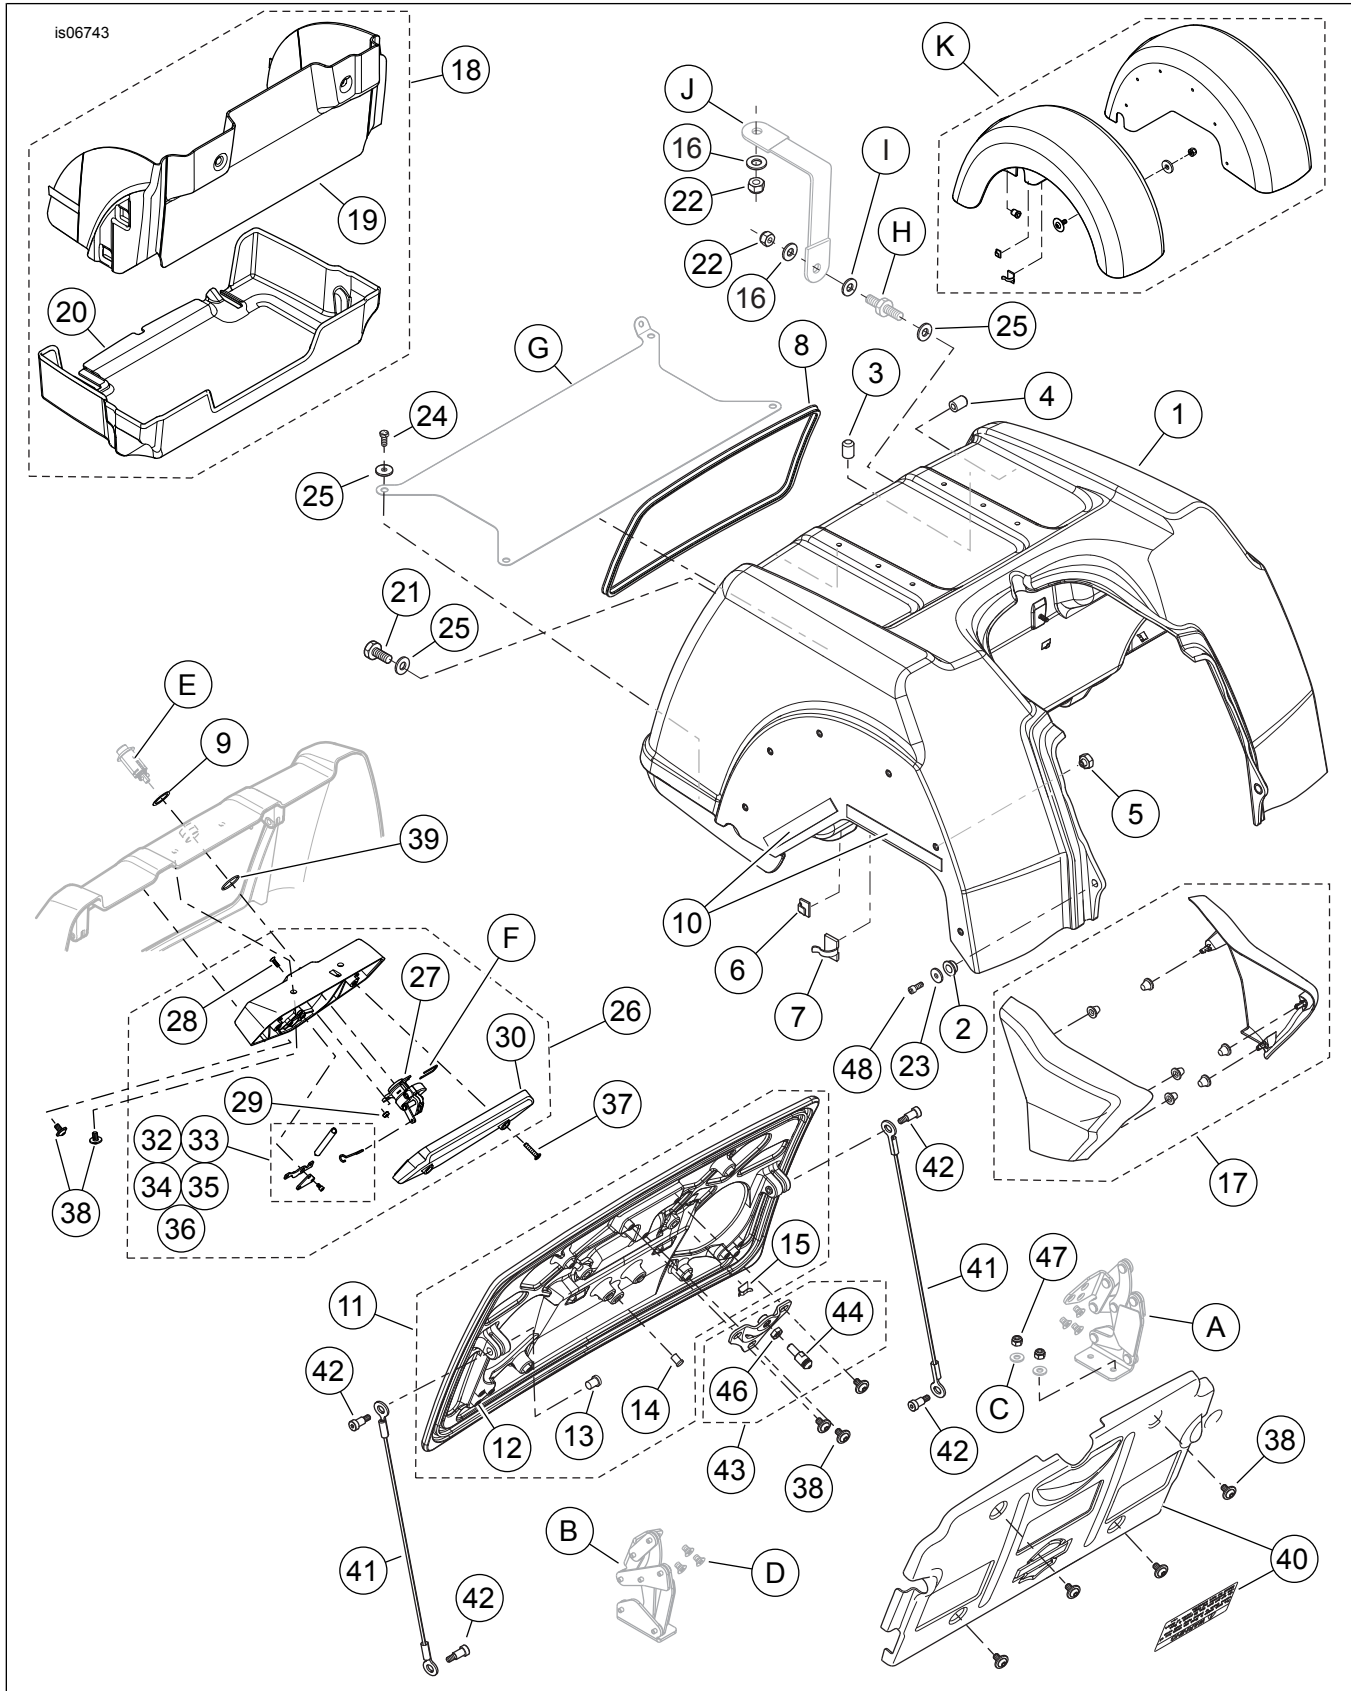

Figure 1. Service Parts, Trike Replacement Body Kits
See Figure 1, Table 1, Table 2, Table 3 and Table 4.
1. See Figure 1. Install the fenders to the **new** body per the instructions in the Rear Fender Kit (K) with the following exception:
- b. Secure one end of the original ground strap (J) to the stud on the underside of the Tour-Pak mount reinforcement with a **new** hex locknut (22) from the kit and an original plain washer (I). Tighten the locknut to 10.8–13.5 N·m (96–120 **in-lbs**).
*If the U-clip (F) from the original trunk lock assembly (E) is bent or damaged, obtain a new U-clip (Part No. 53868-06) from a Harley-Davidson dealer.*
1. See Figure 1. Examine the foam trunk lockset sealing washer (9) at the lock opening on the body, and replace if damaged. Follow service manual instructions to install the **new** latch assembly (26) to the body, with the following exceptions:
- a. Position the **new** O-ring (39) from the kit around the lock opening in the latch assembly housing.
- b. Install the latch housing assembly with four **new** TORX® screws (38).
- c. Install the **new** latch cover (30) with two **new** flat head screws (37).
2. Install the original trunk lockset through the body and into the lock mechanism (27) in the latch housing assembly.
1. See Figure 1. Use two **new** nuts (47), and the original washers (C) and O-rings to assemble the original license plate lamp to the **new** trunk door assembly (11) per service manual instructions.
3. **Loosely** install the **new** latch pin assembly (43) to the trunk door using three TORX screws (38).
4. Follow service manual instructions to install the left (A) and right (B) trunk door hinges to the door with the six original flat head screws (D).
5. Examine the trunk door seal (8) around the door opening, and replace if damaged.
See Figure 1. Remove the original side cover attaching hardware and install the **new** side covers per the instructions in the Side Cover Kit (17).
1. See Figure 1. Install the **new** vertical and bottom trunk liners (Items 19 and 20, FLHTCUTG) or original trunk mat (FLHXXX).